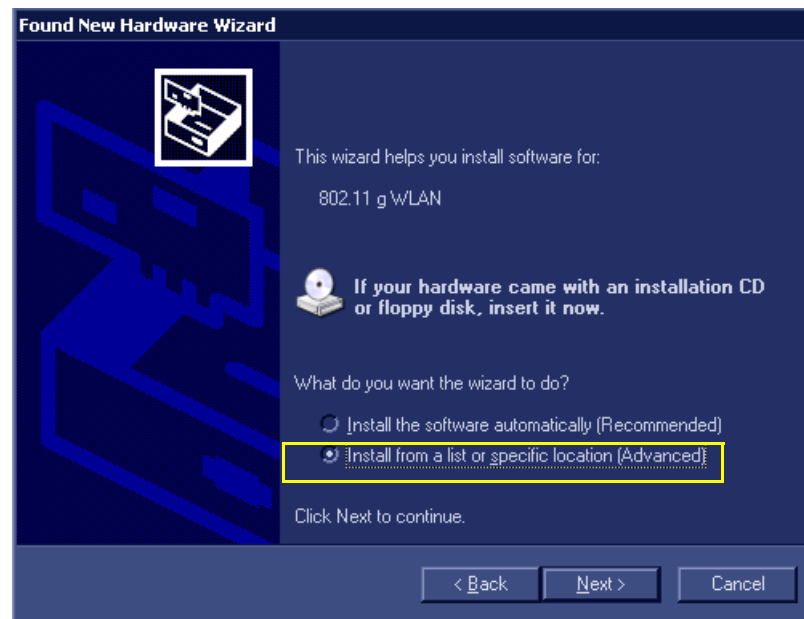

Figure 3-90 Install from a List or Specific Location
- 9.) Select "Install from a list or specific location (Advanced)" - see Figure 3-90 and click **Next**.